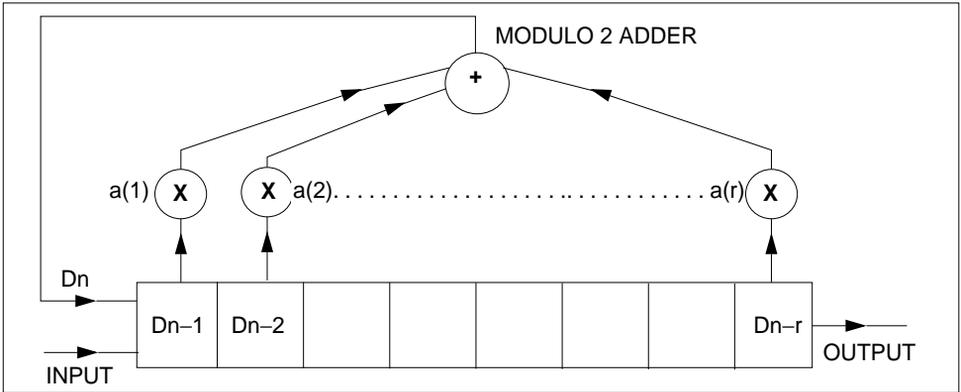

Figure 5-6. LFSR Model
3. The linear feedback shift register component can be used to generate PN sequences with user-defined recurrence relations. The input to the LFSR is a binary sequence. Figure 5-6 illustrates an LFSR model.